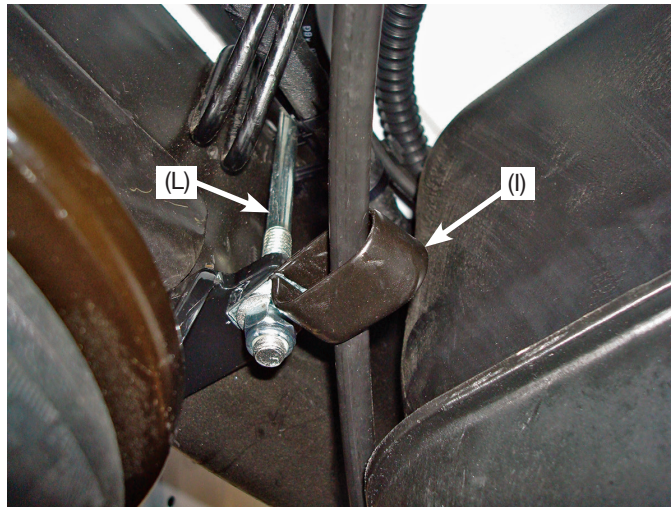

fig. 10
14. Insert the emergency brake cable into the large frame clamp (I) (fig. 10).
15. Install the large frame clamp onto the U-bolt (L), inside the frame on the left (driver's) side with the clamp pointing inboard toward the center of the vehicle (fig. 10).
16. Torque the U-bolt as specified in step 5 if using the U-bolt to mount the upper bracket (fig. 10). If you have a 5th wheel bracket and use the center hole, instead of the U-bolt, to mount the upper bracket, attach the large frame clamp (I) using the 3/8" bolt (V), 3/8" flat washer (S) and nylon lock nut (R) supplied. Tighten to 10 lb.-ft. (14Nm).